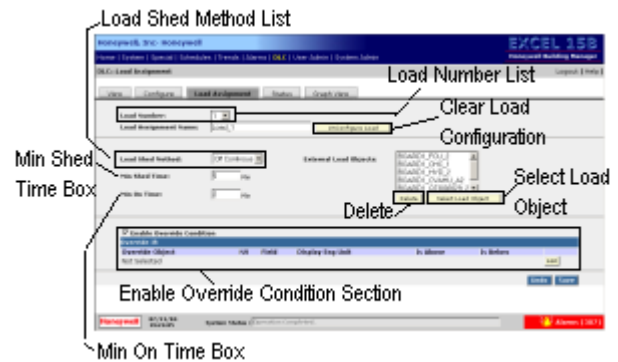

Fig. 57. DLC::Load Assignment Page
- Select the "Enable Override Condition" checkbox if you do not want DLC to shed loads on selected object points (refer to Fig. 57).
- After filling the details for the selected point (refer to the preceding table) click "Select". The selected point's details are displayed under the respective column headings in the "Override If:" section (refer to Fig. 57).